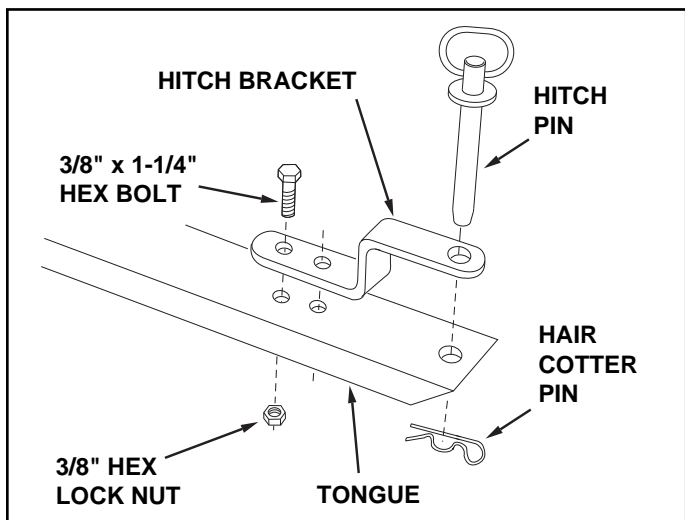

FIGURE 9
15. Assemble the hitch bracket to the front tongue using two $3/8"$ x $1-1/4"$ hex bolts and $3/8"$ nylock nuts. **Tighten.** See figure 9.
16. Secure the hitch pin to the hitch bracket and tongue with the hair cotter pin. See figure 9.